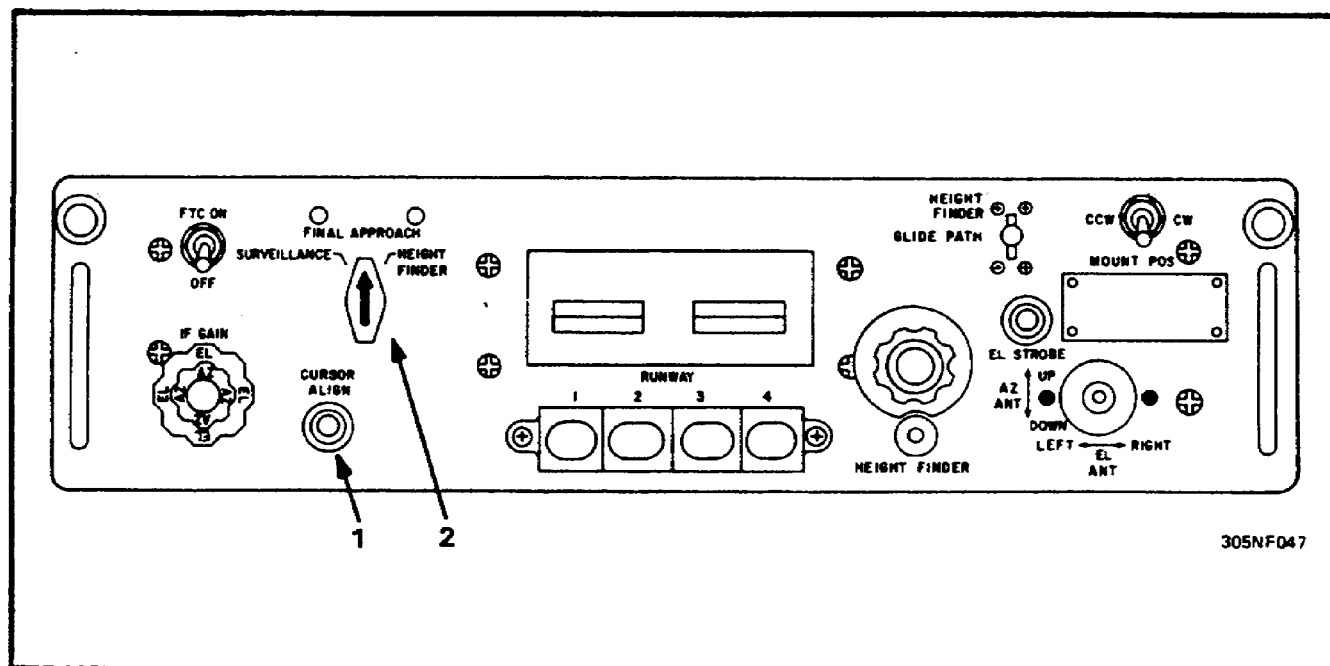

Figure 36. Control, radar set C-2074A/FPN-33.
m. Locate the following on control, radar set C-2074A/FPN-33. (See Figure 36.)
- (1) CURSOR ALIGN switch S2807.
- (2) SURVEILLANCE-FINAL APPROACH-HEIGHT FINDER switch S2802.
n. Place the SURVEILLANCE-FINAL APPROACH-HEIGHT FINDER switch S2802 on control, radar set C-2074/FPN-33 to the FINAL APPROACH position. (See Figure 36.)
- _____ CURSOR ALIGN switch S2807 (Figure 36)
- _____ SURVEILLANCE-FINAL APPROACH-HEIGHT FINDER switch S2802 (Figure 36)